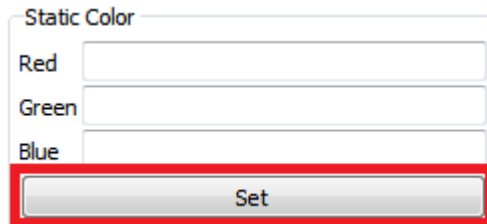

Figure 2-51. DLP LightCrafter GUI Static Color Set Button
4. To display a solid color, enter an 8-bit value (0 to 255) for each color in the Static Color settings and click Set. See Figure 2-51.